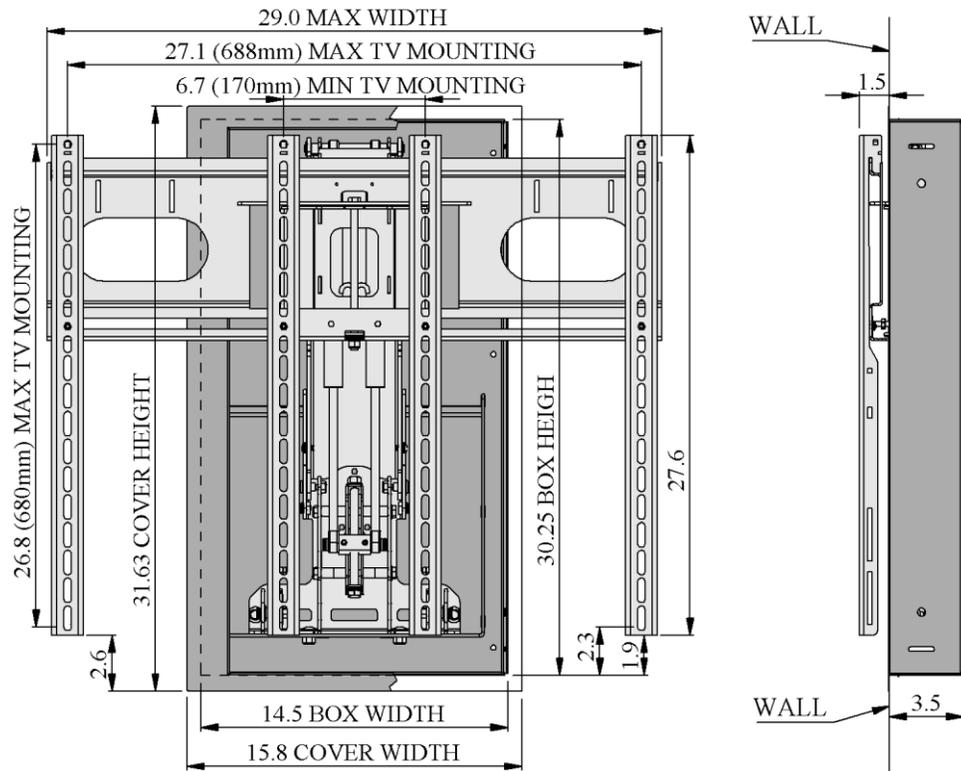

Figure 1, Mount Overall Size, Television Mounting Hole Pattern Range, Wall Mounting Hole Pattern Range
- **Note for smaller televisions;** the mount may be wider or taller than the television. If this is the case then the mount may be visible in the top position. See Figure 1
- Product Dimensions: 31.63 x 15.8 x 3.5 inches. See Figure 1